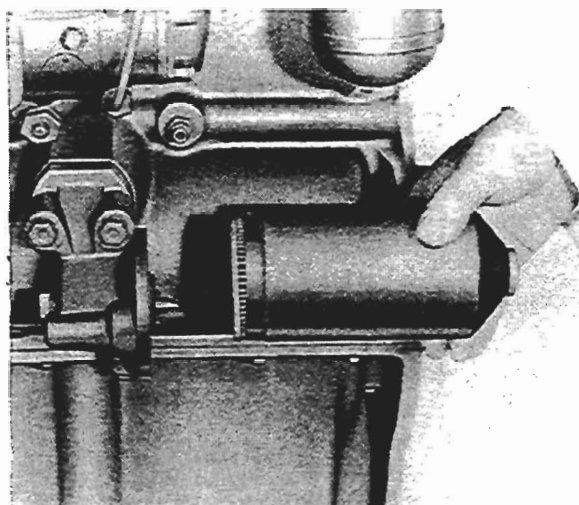

Fig. M3
2. Remove filter bowl (see fig. M3).